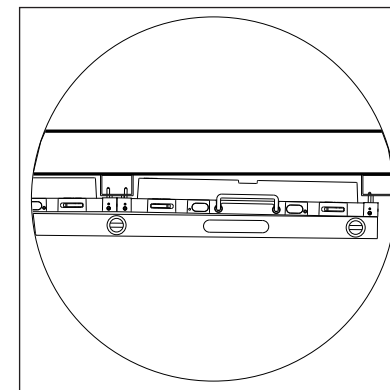

Figure 26: Verify Flatness
- Verify flatness by laying a 4' level across the face to ensure the combined face of both panels is straight and flat. Check both ends of the panel. Refer to **Figure 26**.